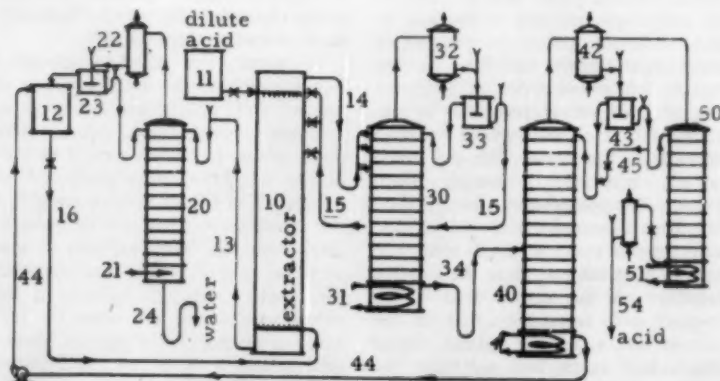

Figure 3. Combination of one extraction step and four azeotropic distillation steps for recovering acetic acid with a minimum of heat costs.
The liquid streams discharging from extractions or extractive distillations must always be separated by additional distillation steps, at least one of which is often azeotropic. One typical process (15) fully using the advantage of these several methods in reducing the heat costs of concentrating acetic acid is shown in Figure 3. In extractor 10, the acid is separated from the water by a selective solvent. The same solvent distills the water overhead by increasing its relative volatility in a first azeotropic distillation, in column 30. The solvent has so high a boiling point that its ratio in the azeotropic mixture is too low to give sufficient reflux to prevent a small amount of the acid from coming over in the "sweet water." To exhaust this of acid, it is returned to extractor 10, at a point where the acid strength is the same. The dry acid-solvent mixture discharges from column 30 to column 40 through pipe 34 where a second azeotropic distillation separates acetic acid from the high boiling solvent. Here the relative volatility of the acetic acid is increased with respect to that of the solvent by a second added liquid which has much less solubility for acetic acid than for the solvent. A final exhaustion by azeotropic distillation in column 50 separates the sec-